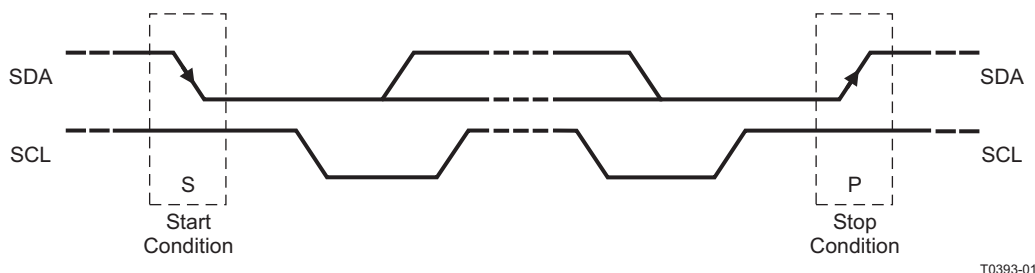

Figure 36. I²C Start and Stop Conditions
The basic I²C start and stop access cycles are shown in Figure 36.
- The *master* initiates data transfer by generating a *start condition*. The *start condition* is when a high-to-low transition occurs on the SDA line while SCL is high, as shown in Figure 36. All I²C-compatible devices should recognize a *start condition*.
- To signal the end of the data transfer, the master generates a *stop condition* by pulling the SDA line from low to high while the SCL line is high (see Figure 36). This releases the bus and stops the communication link with the addressed slave. All I²C compatible devices must recognize the stop condition. Upon the receipt of a *stop condition*, all devices know that the bus is released, and they wait for a *start condition* followed by a matching address.